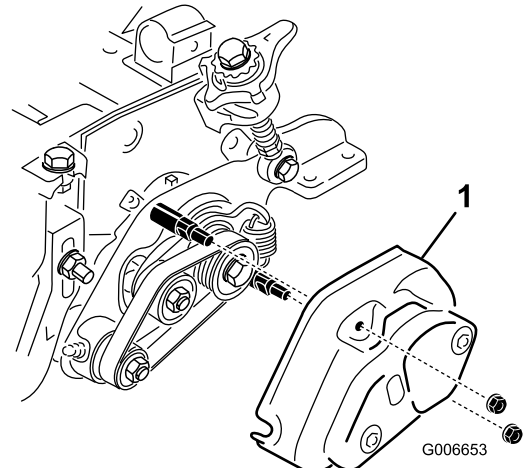

Figure 13
24. Install the groomer cover and secure with (2) 5/16 inch flange nuts (Figure 13).